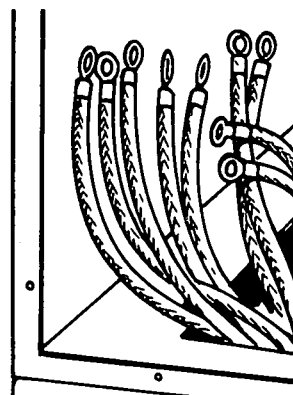

FIGURE 17. CONTROL BOX (SIDE PANEL REMOVED)
1. Remove either right, left or top panel from control box. See Figure 17.